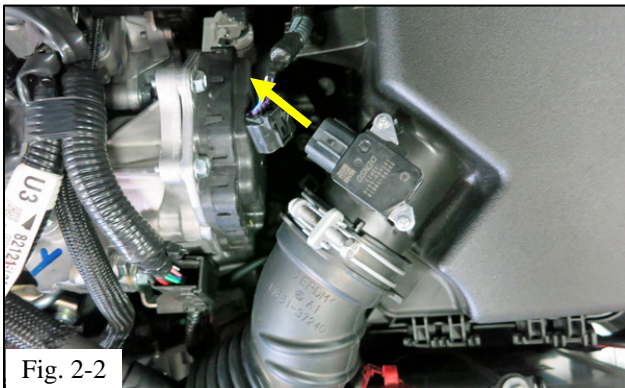

Fig. 2-2
- (b) Unplug the mass airflow sensor and unclip the sensor wiring harness from the air box lid (Fig. 2-2).